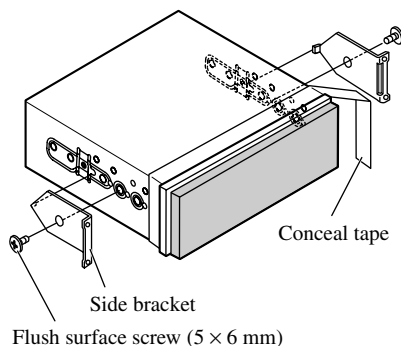

Fig. 14
1. Decide the position of the side brackets. (Fig. 14)